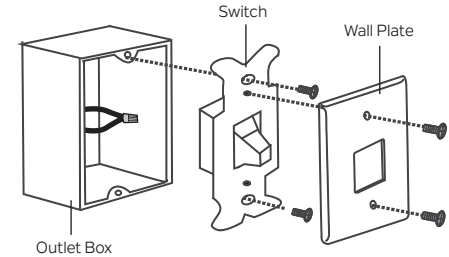

Fig. 22
**Step 1.** Remove the existing wall plate and the old switch from the wall outlet box. Wire nut the BLACK leads (hot) together and push back inside the outlet box. **(Fig. 22)**